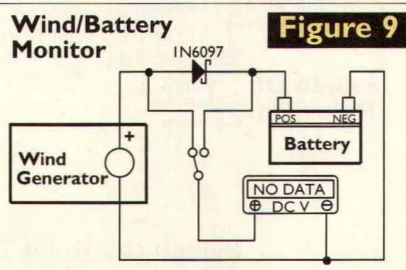

Figure 9
A. This is an interesting request with a simple solution. Insert a diode in the hot lead and use an SPDT switch to switch between the generator voltage and the battery bank, as shown in Figure 9. I would use a Schottky barrier diode, like a 1N6097 (available from Digi-Key), over a standard silicon rectifier to reduce heat and energy loss.